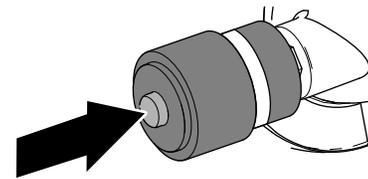

Figure 79
1. If a red band displays in the service indicator, press the reset button at the end of the indicator (Figure 79).